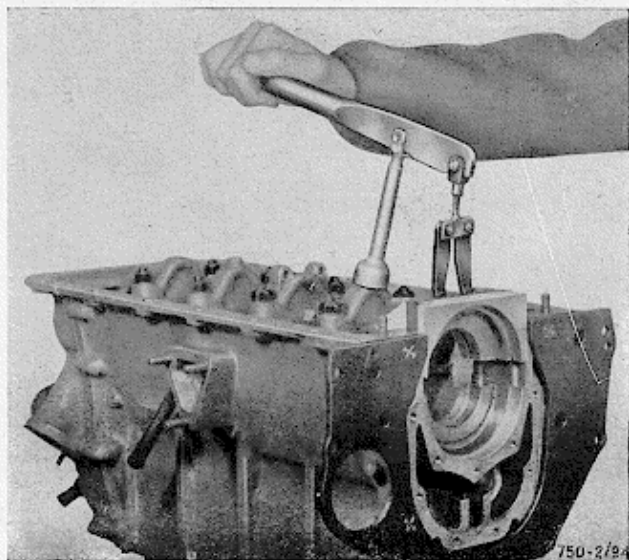

Fig. 94 - Dismantling the rear bearing cap by means of the tool No. 6121.11.004
- 11) Remove the crankshaft bearing caps (figs. 94 and 95).